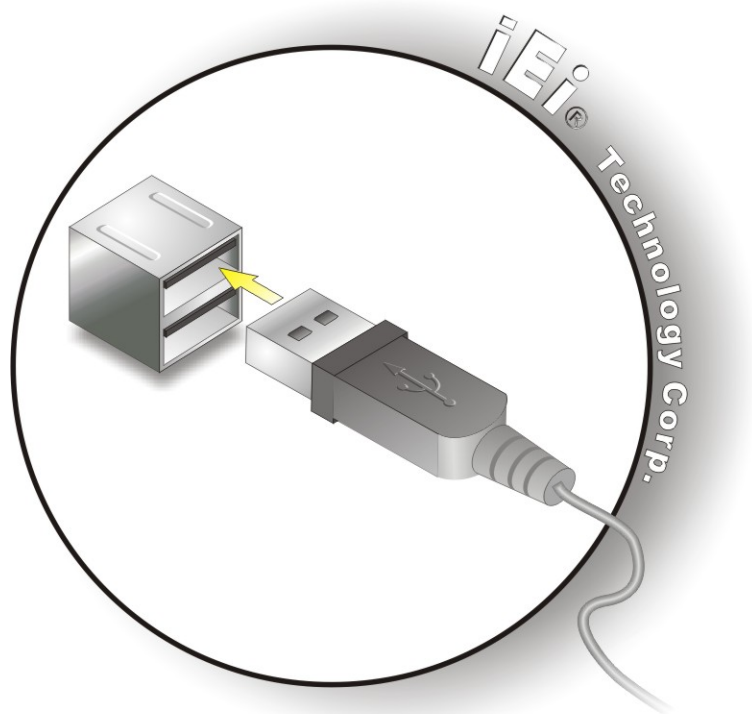

Figure 4-13: USB Device Connection
Step 2: Align the connectors. Align the USB device connector with one of the connectors on the bottom panel. See **Figure 4-13**.